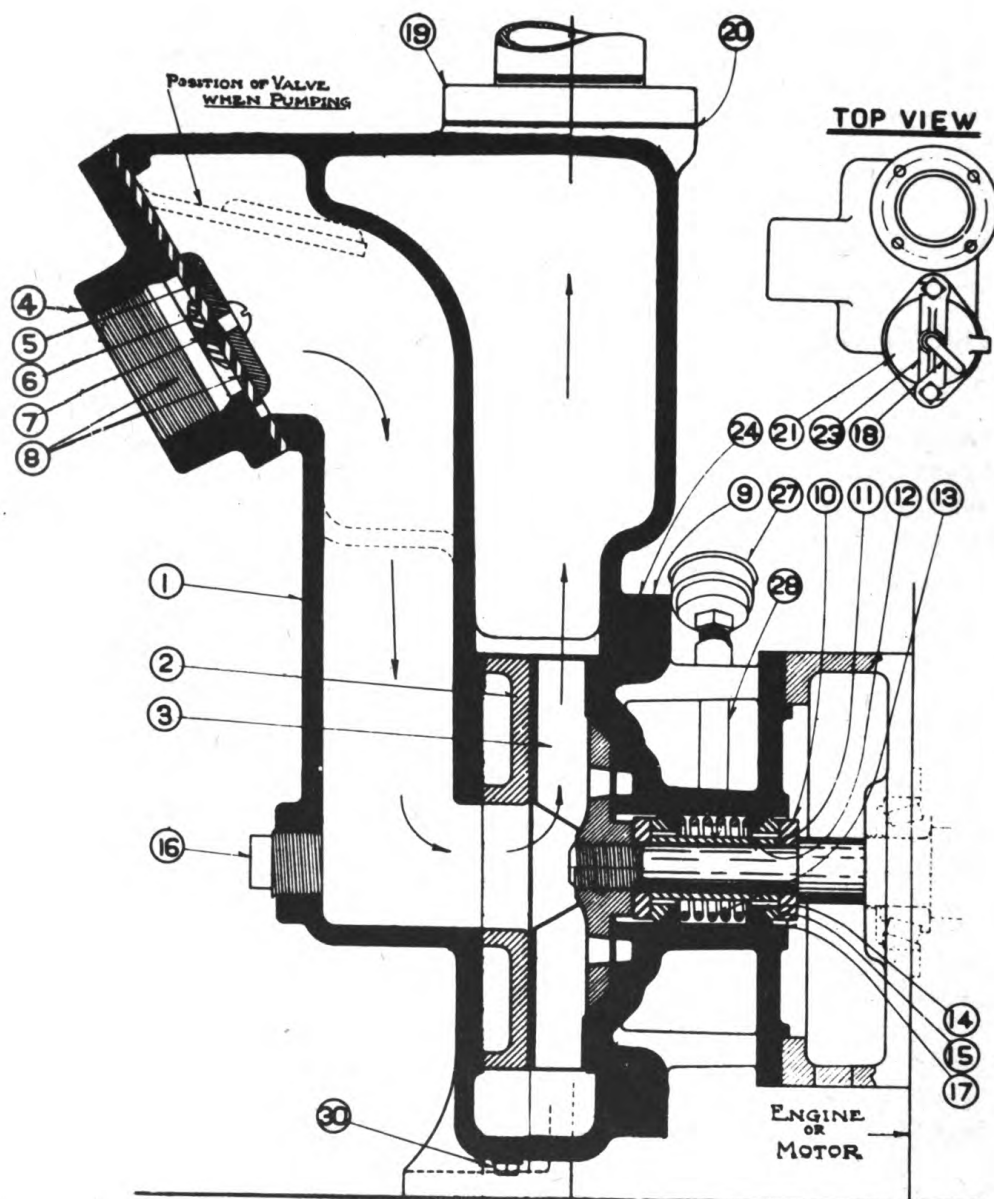

Fig. 44
**PROPER LUBRICATION OF THE GREASE SEAL (Fig. 44)**—The grease seal is a great improvement over the customary stuffing box with packing, in fact, without it the self-priming centrifugal pump does not operate satisfactorily. The purpose of the seal is:
**TO REPLACE GREASE SEAL ASSEMBLY (Fig. 44)**—Remove pump body (1) from intermediate part (9) which exposes impeller (3). The impeller shaft is a right hand thread so to unscrew impeller place a hard wood block on the end of an impeller vane and strike the block a sharp blow with a hammer. If the impeller vane is not protected by the wood block and is struck directly with the hammer it may be broken.